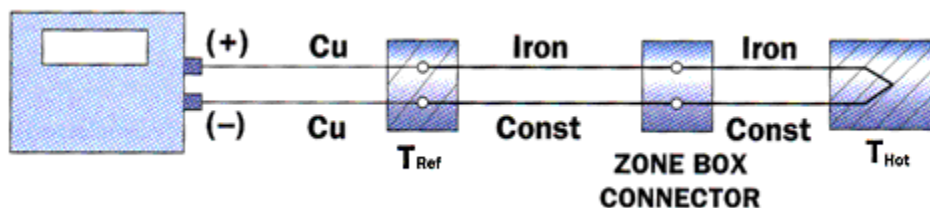

Figure 3. A circuit using extension wires and a connector of a zone-box.
**Zone Boxes:** A zone box is a region of uniform temperature used to ensure that all connections made within it are at the same temperature. The temperature need not be controlled, nor need it be measured — it need only be uniform. Circuits using zone boxes are shown in Figures 3 and 4.
**Connectors:** Figure 3 shows a circuit using extension wires and a connector, instead of unbroken lengths of wire. The connector can be either a thermocouple grade connector, or a barrier strip inside a zone box. If the extension wires are from the same spool of wire as the probe, this circuit is exactly equivalent to the ideal circuit.